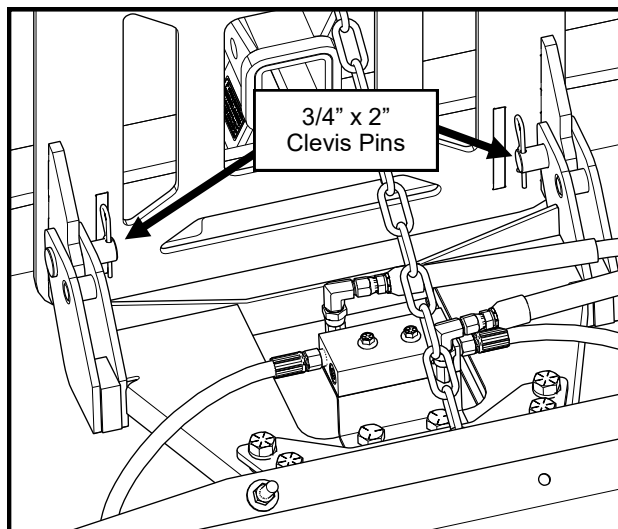

Fig. 9.1—Plow to Lower Mounting Tabs
9.1 Place the Plow sub-assembly in front of the mounting plate and align the A-frame tabs to the lower tabs on the mounting plate. Connect the A-frame to the mounting frame with two 3/4" x 2" clevis pins and secure with the larger hairpin cotter pins. See Fig 9.1.